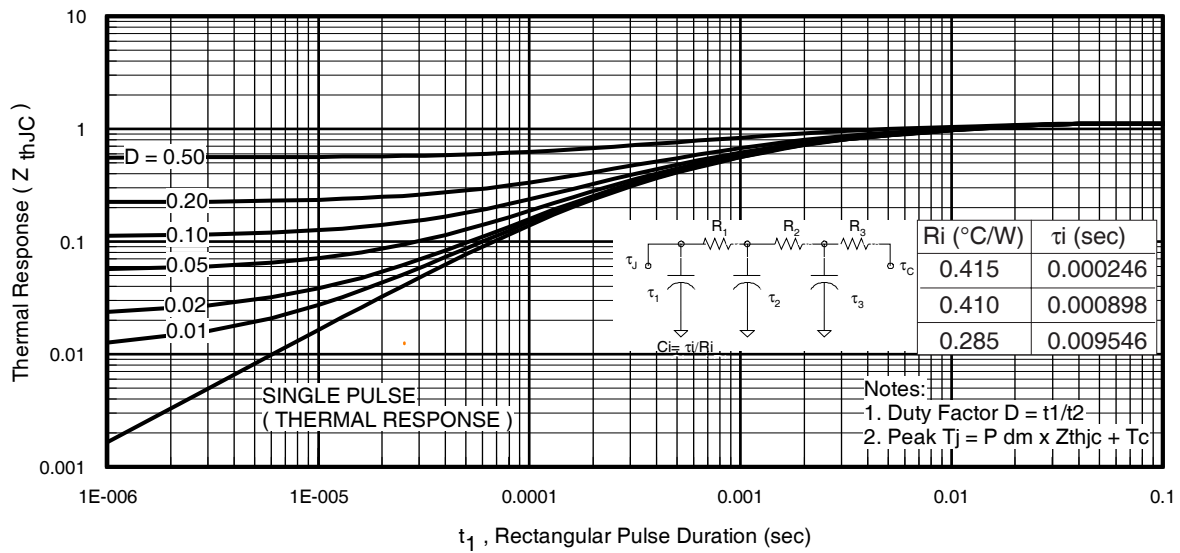
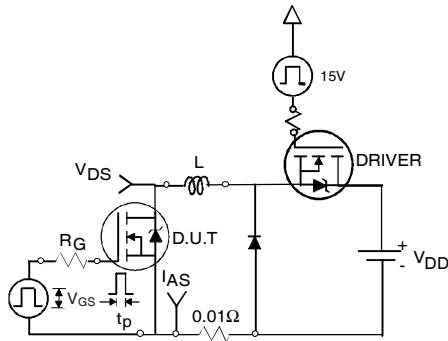

Fig 11. Maximum Effective Transient Thermal Impedance, Junction-to-Case
Fig 12a. Unclamped Inductive Test Circuit
- ① Repetitive rating; pulse width limited by max. junction temperature. (See fig. 11).
- ② Limited by T_{Jmax} , starting $T_J = 25^\circ\text{C}$, $L = 0.077\text{mH}$, $R_G = 25\Omega$, $I_{AS} = 51A$, $V_{GS} = 10V$. Part not recommended for use above this value.
- ③ $I_{SD} \leq 51A$, $di/dt \leq 260A/\mu s$, $V_{DD} \leq V_{(BR)DSS}$, $T_J \leq 175^\circ\text{C}$.
- ④ Pulse width $\leq 1.0\text{ms}$; duty cycle $\leq 2\%$.
- ⑤ $C_{oss \text{ eff.}}$ is a fixed capacitance that gives the same charging time as C_{oss} while V_{DS} is rising from 0 to 80% V_{DSS} .
- ⑥ Limited by T_{Jmax} , see Fig.12a, 12b, 15, 16 for typical repetitive avalanche performance.
- ⑦ This value determined from sample failure population. 100% tested to this value in production.
- ⑧ This is applied to D²Pak, when mounted on 1" square PCB (FR-4 or G-10 Material). For recommended footprint and soldering techniques refer to application note #AN-994.
3. Equation below based on circuit and waveforms shown in Figures 12a, 12b.
$Z_{thJC}(D, t_{av})$ = Transient thermal resistance, see figure 11)